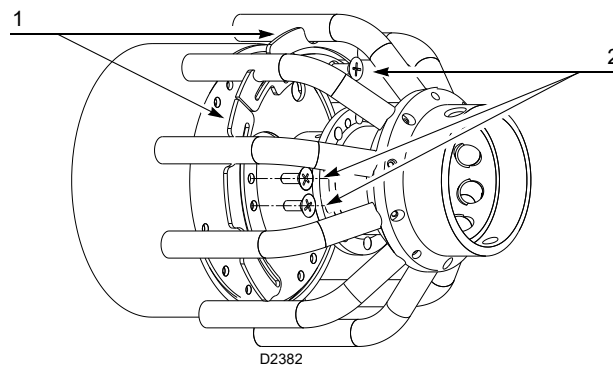

Fig. 14
- If, on the other hand, it is in area B, before starting the burner remove the 4 circular sectors 1)(Fig. 14) fastened behind the stabilizing disc by removing the 8 screws 2)(Fig. 14).